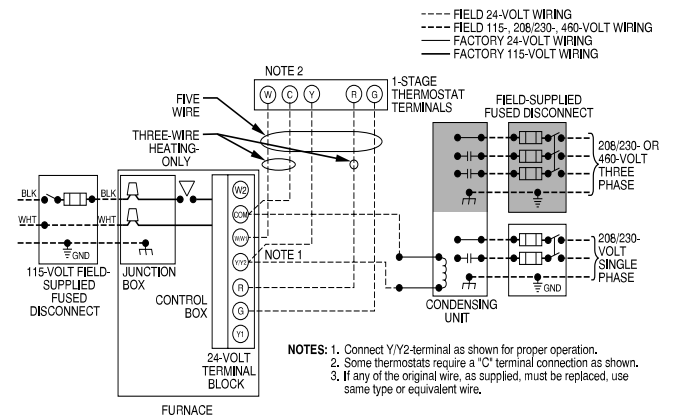

Fig. 32 – Typical Field Wiring Diagram
See Fig. 32 for field wiring diagram showing typical field 115-V wiring. Check all factory and field electrical connections for tightness. Field-supplied wiring shall conform with the limitations of 63°F (33°C) rise.
- Connect power cord power and neutral leads to furnace power leads as shown in Fig. 32.
- Connect field power and neutral leads to furnace power leads. as shown in Fig. 32.